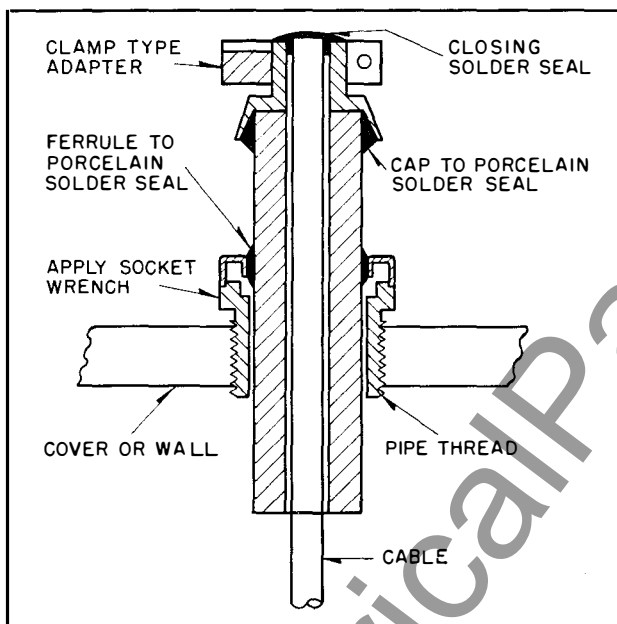

FIG. 3. Sectional View of Low-Voltage Bushing
2. Remove the low-voltage adapters and break the threads loose on all low-voltage bushings by applying a socket wrench to the hexagon nut. (See Figure 3). Wrap the top of the bushing with wet asbestos packing to prevent breaking the porcelain solderseals. Apply heat to the solderseal on cap of the bushing and unscrew the bushing as soon as solder is soft.